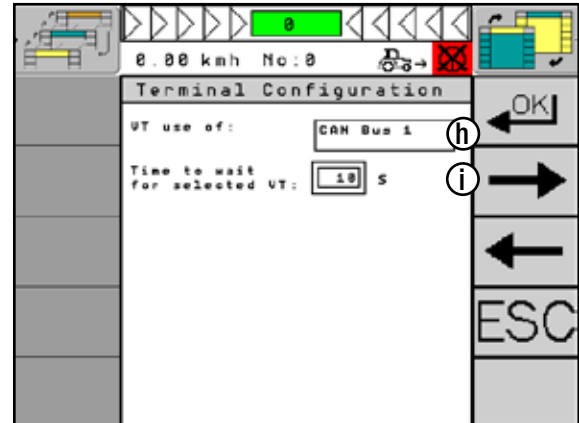
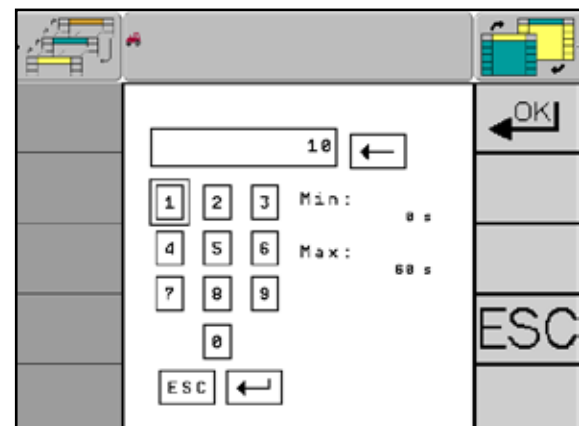

Fig. 46: Terminal configuration page 2
Fig. 47: Set waiting time
- h With the “VT use of” button, you can select with which CAN (CAN1 or CAN2) you want to use the VT (see Fig. 46 – h).
- i With the “Time to wait for selected VT” button, you can set the time that ULTRA GUIDANCE PSR ISO will wait until the desired terminal has been started (see Fig. 46 – i). Select the button and enter the desired waiting time using the numerical input keys (see Fig. 47). Proceed as described in Chapter 5.1.2. Ten seconds are set in the system as default value.